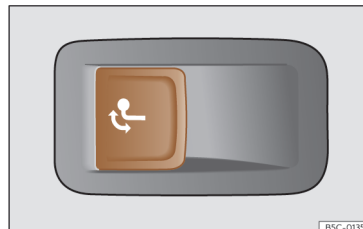

Fig. 201 On the left side of the luggage compartment: button for unlocking the tow hook.
- Pull the >>> Fig. 201 button briefly. The tow hook unlocks electrically and automatically turns outwards. The button's control lamp flashes.
- Pull the >>> Fig. 201 button briefly. The tow hook unlocks electrically.
- If the warning light on the button >>> Fig. 201 → flashes, this means that the tow hook has not been attached properly or is damaged. >>> .
- If the warning lamp >>> Fig. 201 → remains on with the rear lid open, the tow hook is correctly in place both when extracted and when covered.
- Never press the >>> Fig. 201 button when there is a trailer hooked to the vehicle or when a carrier system or other accessories are mounted on the tow hook.